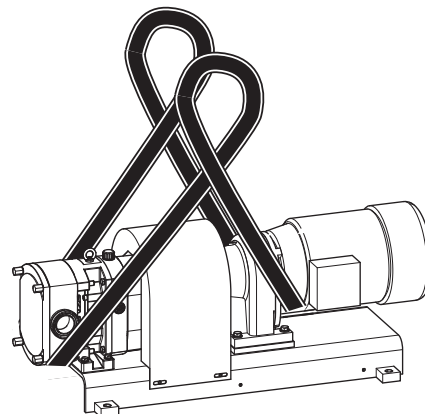

Fig. 13 Moving with round sling illustrated using the FL 100
- ▶ Do not lay the round sling over any sharp edges or corners.Wrap the round sling around the gear motor; see Fig. 13, "Moving with round sling illustrated using the FL 100," page 10.
2. Wrap the other end of the round sling around the pump casing; see Fig. 13, "Moving with round sling illustrated using the FL 100," page 10.